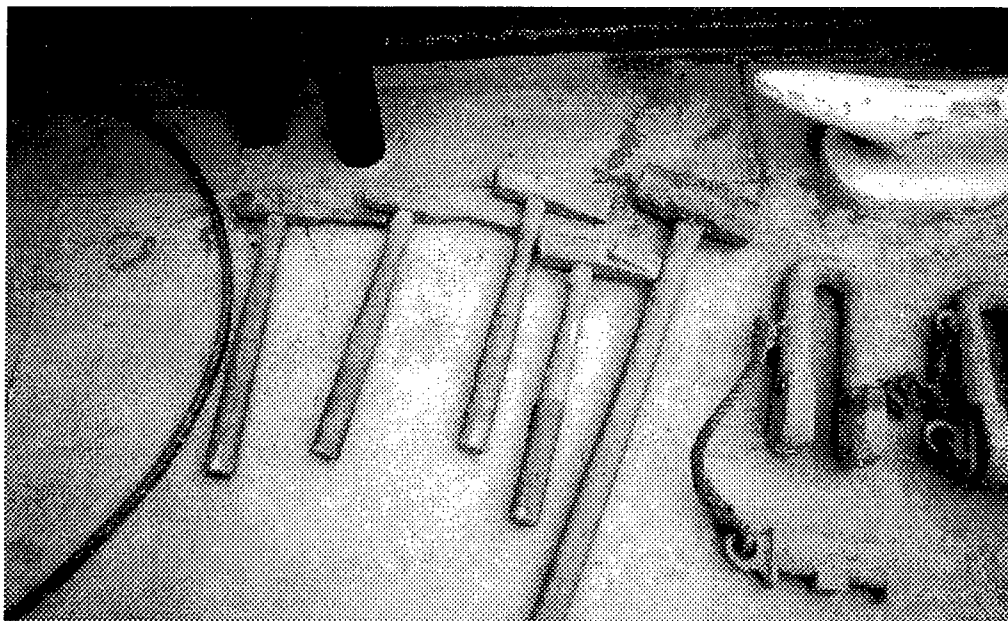

Figure 3-3 Key Punches, **Blacksmith Chisel**, **Blacksmith Hammer**, Sledge Hammer, Modeer Shackle
6. Blacksmith's Chisel. This hammer is flat on one end and beveled on the other. It is sometimes called a split key hammer. It is used to spread the key, a large flat cotterpin, that holds a shackle pin in the shackle. It provides the best means of putting the required 45 degree separation in the split key. It is easiest to turn the shackle on deck, placing the blacksmith chisel into the key opening and hitting it with a blacksmith's hammer (See **Figure 3-3.**)
7. Blacksmith's Hammer. A large hammer, weighing approximately two and a half pounds, flat on both ends. This hammer is used with the blacksmith's punch, chisel, and split key punch. Those tools are lined up with the appropriate item and struck with the blacksmith hammer (See **Figure 3-3.**)